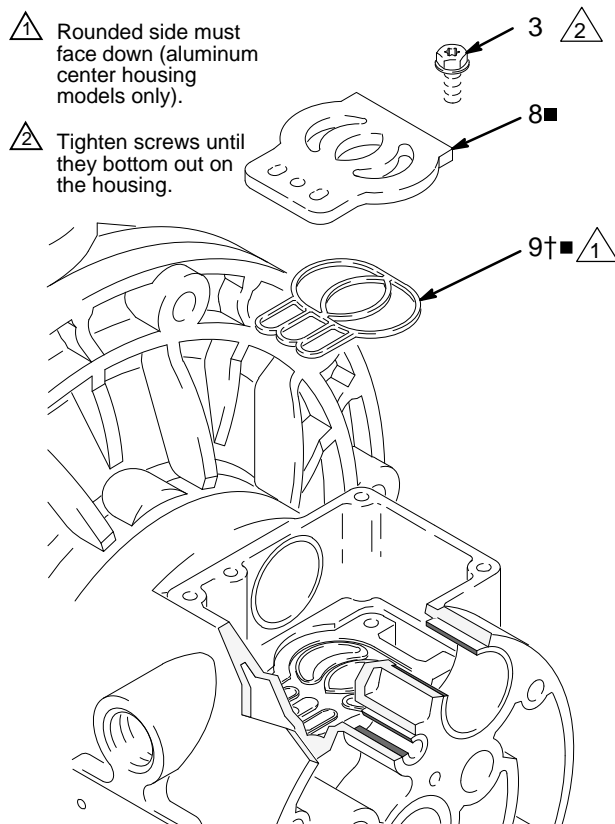

FIG. 9
5. Inspect the valve plate (8■) in place. If damaged, use a Torx (T20) screwdriver or 7 mm (9/32 in.) socket wrench to remove the three screws (3). Remove the valve plate (8■) and, on aluminum center housing models only, remove the seal (9). See FIG. 9.
2. On aluminum center housing models, install the valve plate seal (9) into the groove at the bottom of the valve cavity. The rounded side of the seal **must face down** into the groove. See FIG. 9.
3. Install the valve plate (8) in the cavity. On aluminum center housing models, the plate is reversible, so either side can face up. Install the three screws (3), using a Torx (T20) screwdriver or 7 mm (9/32 in.) socket wrench. Tighten until the screws bottom out on the housing. See FIG. 9.